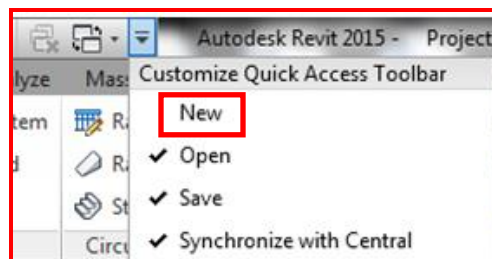

Figure 2.4
3. By default, the **New** button is not available in the Quick Access Toolbar. At the end of the Quick Access Toolbar, click  (Customize Quick Access Toolbar) and select **New**, as shown in Figure 2.4.